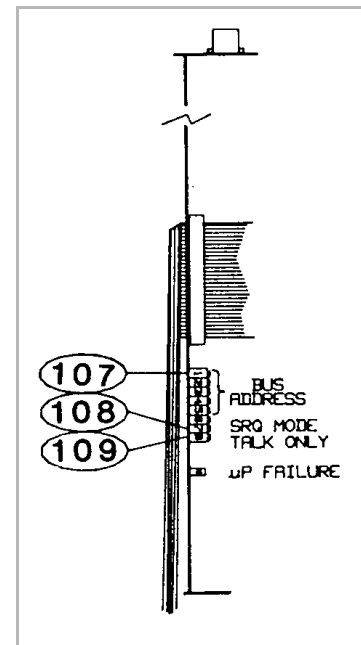

Figure 8-1 IEEE 488 Module Top View.
Refer to Figure 8-1, switch No. 1 is shown by (107). Each instrument on the IEEE 488 bus has an address from 0 to 30. The address is set at the factory to 8. The user must ensure that every device on his bus has a unique address. To select an address, use switches 1 through 5 to adjust the address according to the following binary weight values. Setting a switch to OFF adds the value of the numbered switch to the address sum. See Table 8-1, below.